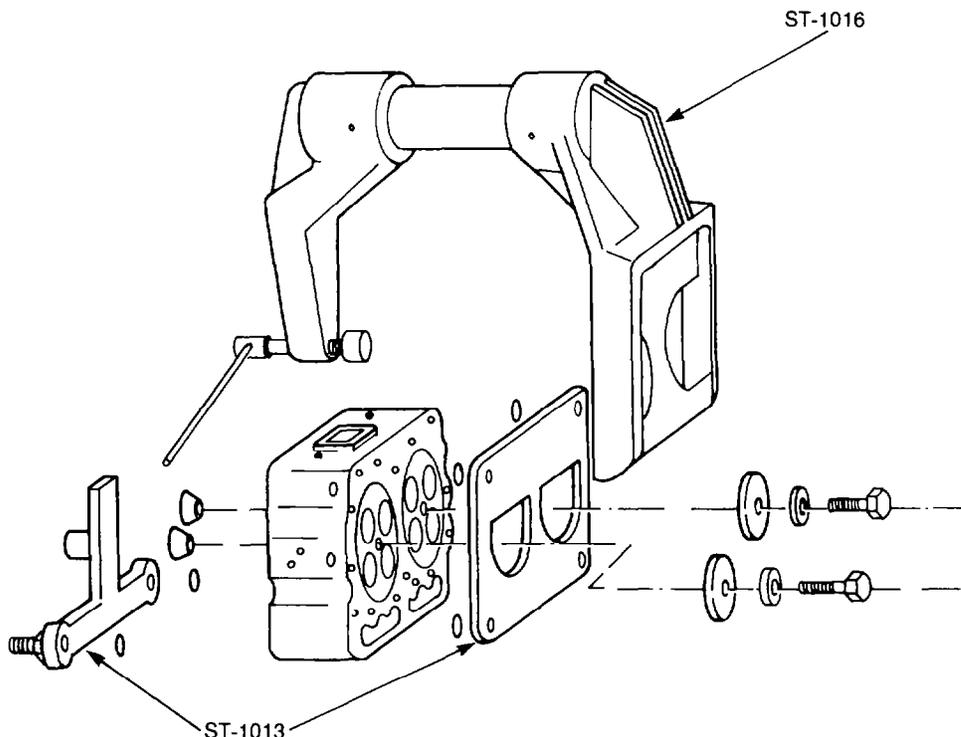

Figure 4 — Cylinder Head — Pressure Testing
- b. Install suitable new O-rings to the upper and lower plates of special tool ST-1013 to seal the water jacket holes. Place the cylinder head onto the lower plate of special tool ST-1013, ensure the locating pins engage in the water jacket holes, then position the upper plate over the water manifold holes, and secure the plates in position using special tool ST-1016 (see Fig. 4).